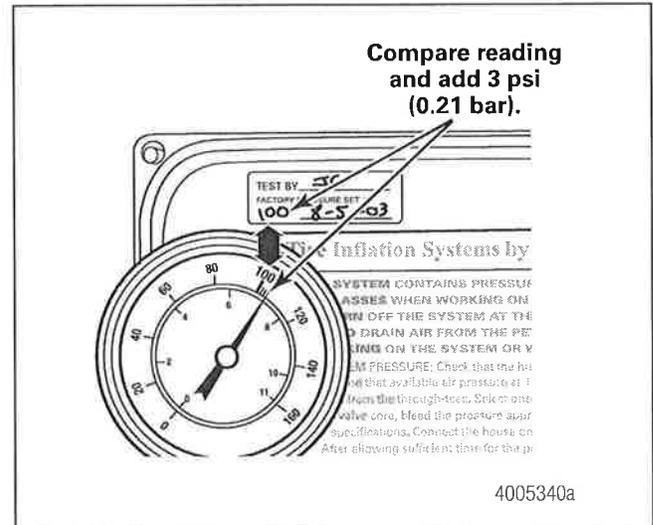

Figure 3.15
- Compare the reading of the air pressure gauge to the pressure value marked on the door of the control box. The air pressure gauge should read three psi (0.21 bar) higher than the pressure value mark on the door of the control box. Figure 3.15.